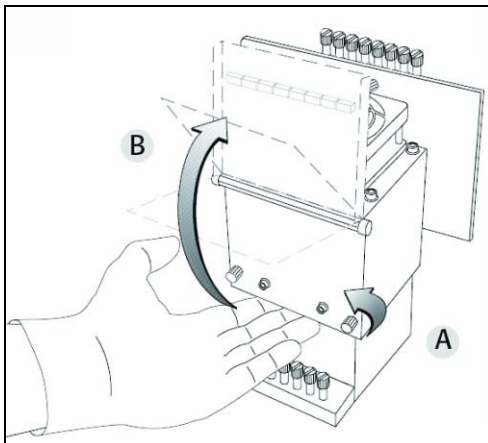

Figure 6-63: Opening the print-head compartment
- Open the print head compartment (see figure 6-63 on page 43).